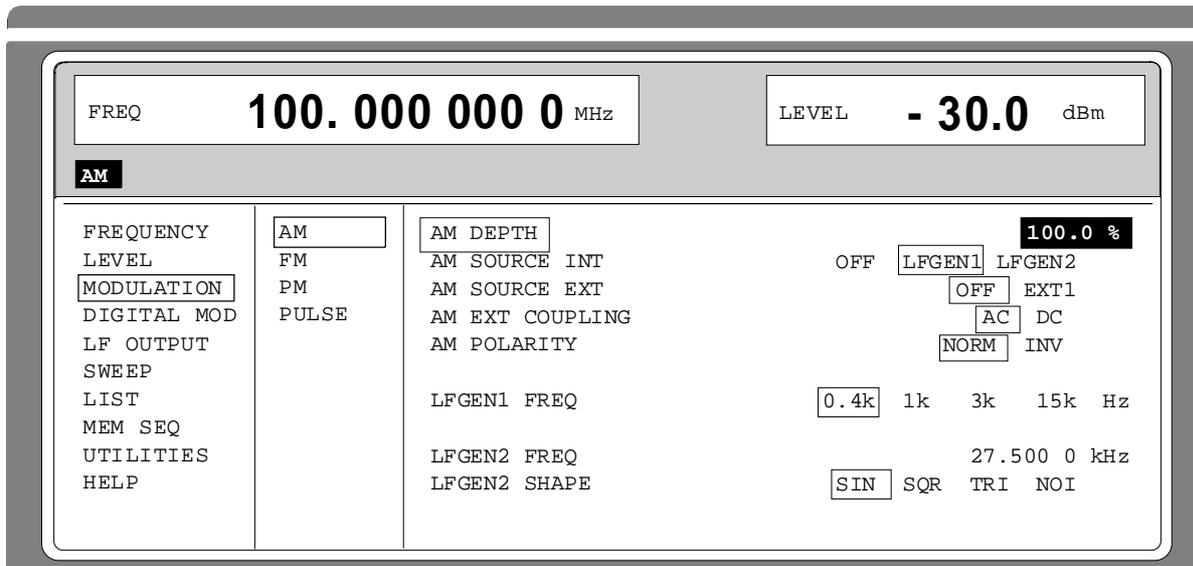

Fig. 2-4 MODULATION-AM menu
- Select parameter** ➤ Set the menu cursor to the name of the parameter desired using the rotary knob, e.g. to AM DEPTH in the AM menu, Fig. 2.4..
- The menu cursor changes from the parameter selected in the left-hand column of the setting menu to the setting value on the right, e.g. from AM DEPTH to 30%, Fig. 2-4.
The menu cursor changes from the parameter selected in the left-hand column of the setting menu to the current selection on the right, e.g. from LFGEN1 FREQ to 0.4 kHz, Fig. 2-4.